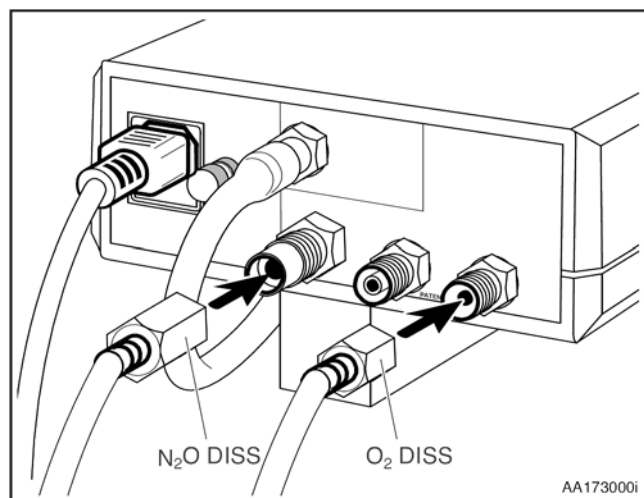

Figure 17. Oxygen and Nitrous Oxide Connections.
1. Connect the DISS female hexagon fitting of the nitrous oxide hose to the male DISS, N₂O INLET, fitting on the back of the mixer head (see Figure 17). Hand tighten and then finish tightening with a 7/8" inch open end wrench (approximately 1/8 turn). *Do not overtighten.*